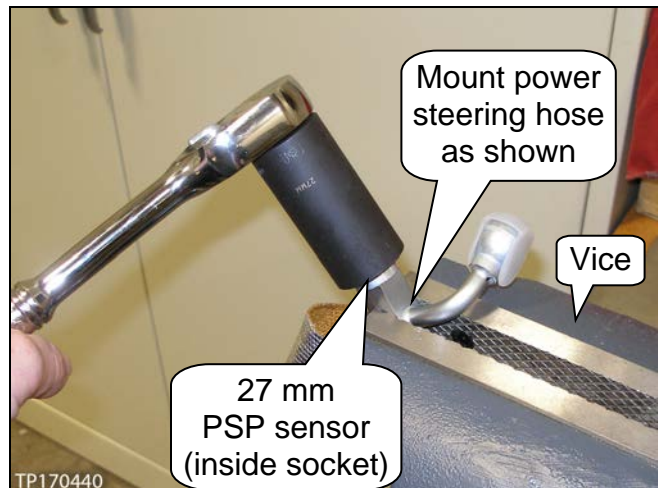

Figure 9
14. Remove the PSP sensor from the removed power steering hose with a 27 mm deep socket as shown in Figure 9.
- Properly support the portion of the power steering hose (shown in Figure 9) in a vise before removing and installing the PSP sensor.